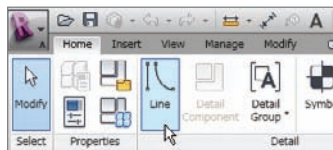

FIGURE 11.82 Click the Line button to start sketching the box.
1. On the Home tab, click the Line button, as shown in Figure 11.82.